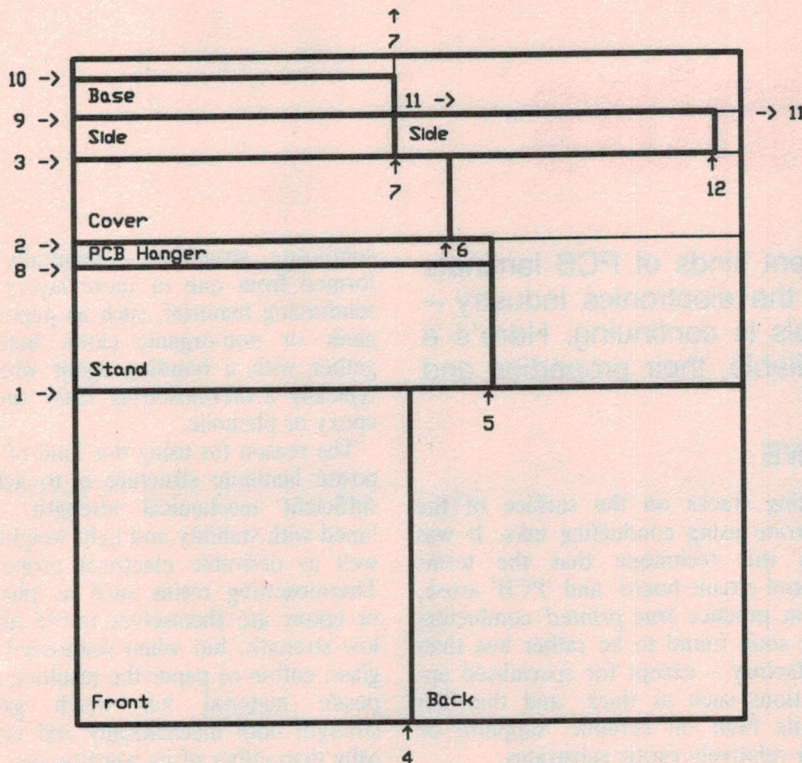

Fig.1: How to cut all of the pieces for a tank the same size as the author's, from a single sheet of glass 400mm square. The cuts are numbered in order.
N.B. All of the above pieces can be cut from a single sheet of glass 400mm x 400mm – see Fig.1.